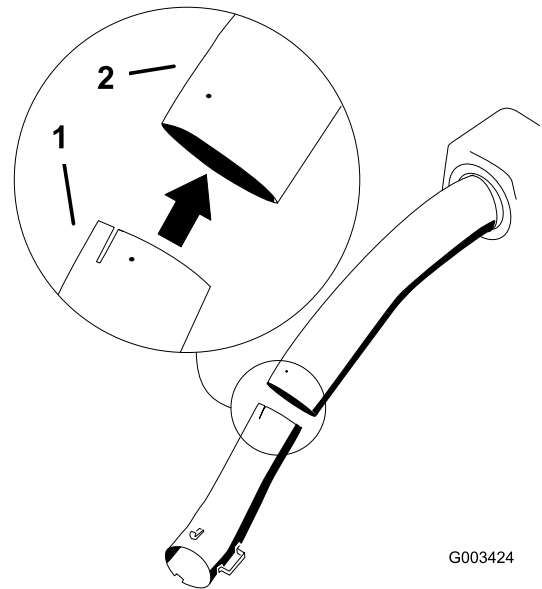

Figure 15
5. Install the lower tube into the upper tube (Figure 15).